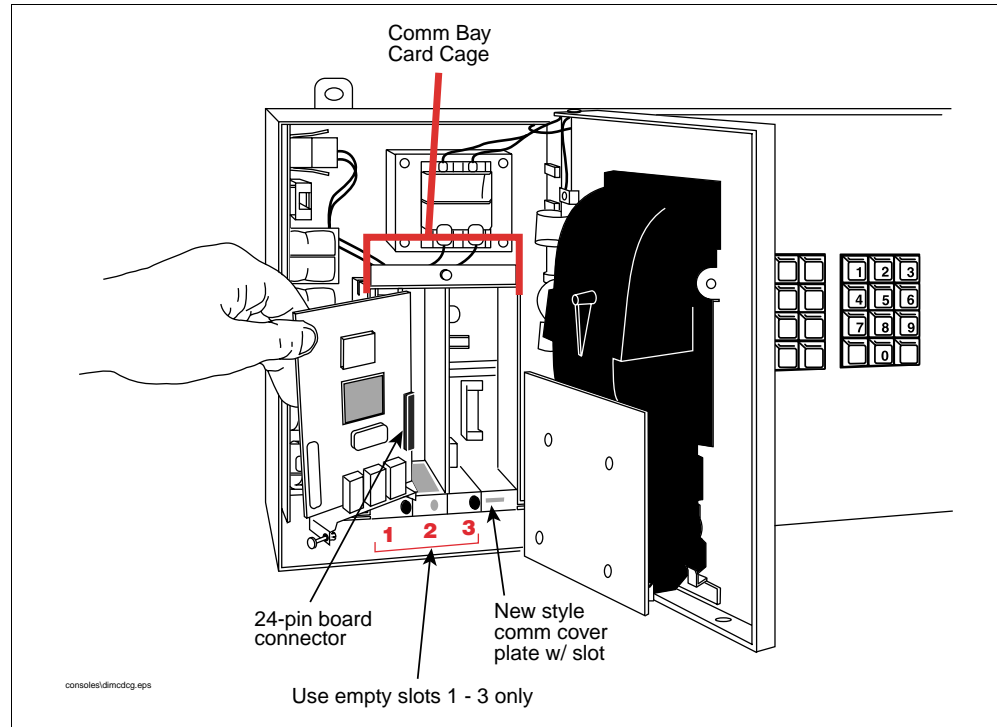

Figure 2. TLS-350R Console CDIM Installation
6. Remove the blank cover plate from an open slot in the communication compartment. Important Note: CDIMs can only be installed in slots 1, 2, or 3 of the console's Comm Bay card cage (Figure 2).
If your console has "knockout" cover plates, open the printer door and insert a flat blade screw driver in the slot provided in the front of the cover plate you are removing and twist it to break the front set of metal securing tabs (Figure 2). Once the front tabs are broken, carefully rock the loosened end of the plate until the rear set of securing tabs break. Remove and discard the cover plate.
7. Slide the new Wayne or Bennett CDIM into the open slot (Figure 2) until the 24-pin female connector on the rear edge of the board seats in the 24-pin male connector on the motherboard. Do not apply excessive force when installing the module. With your thumb, push in the black retaining fastener on the end plate until it snaps into the hole in the card cage.